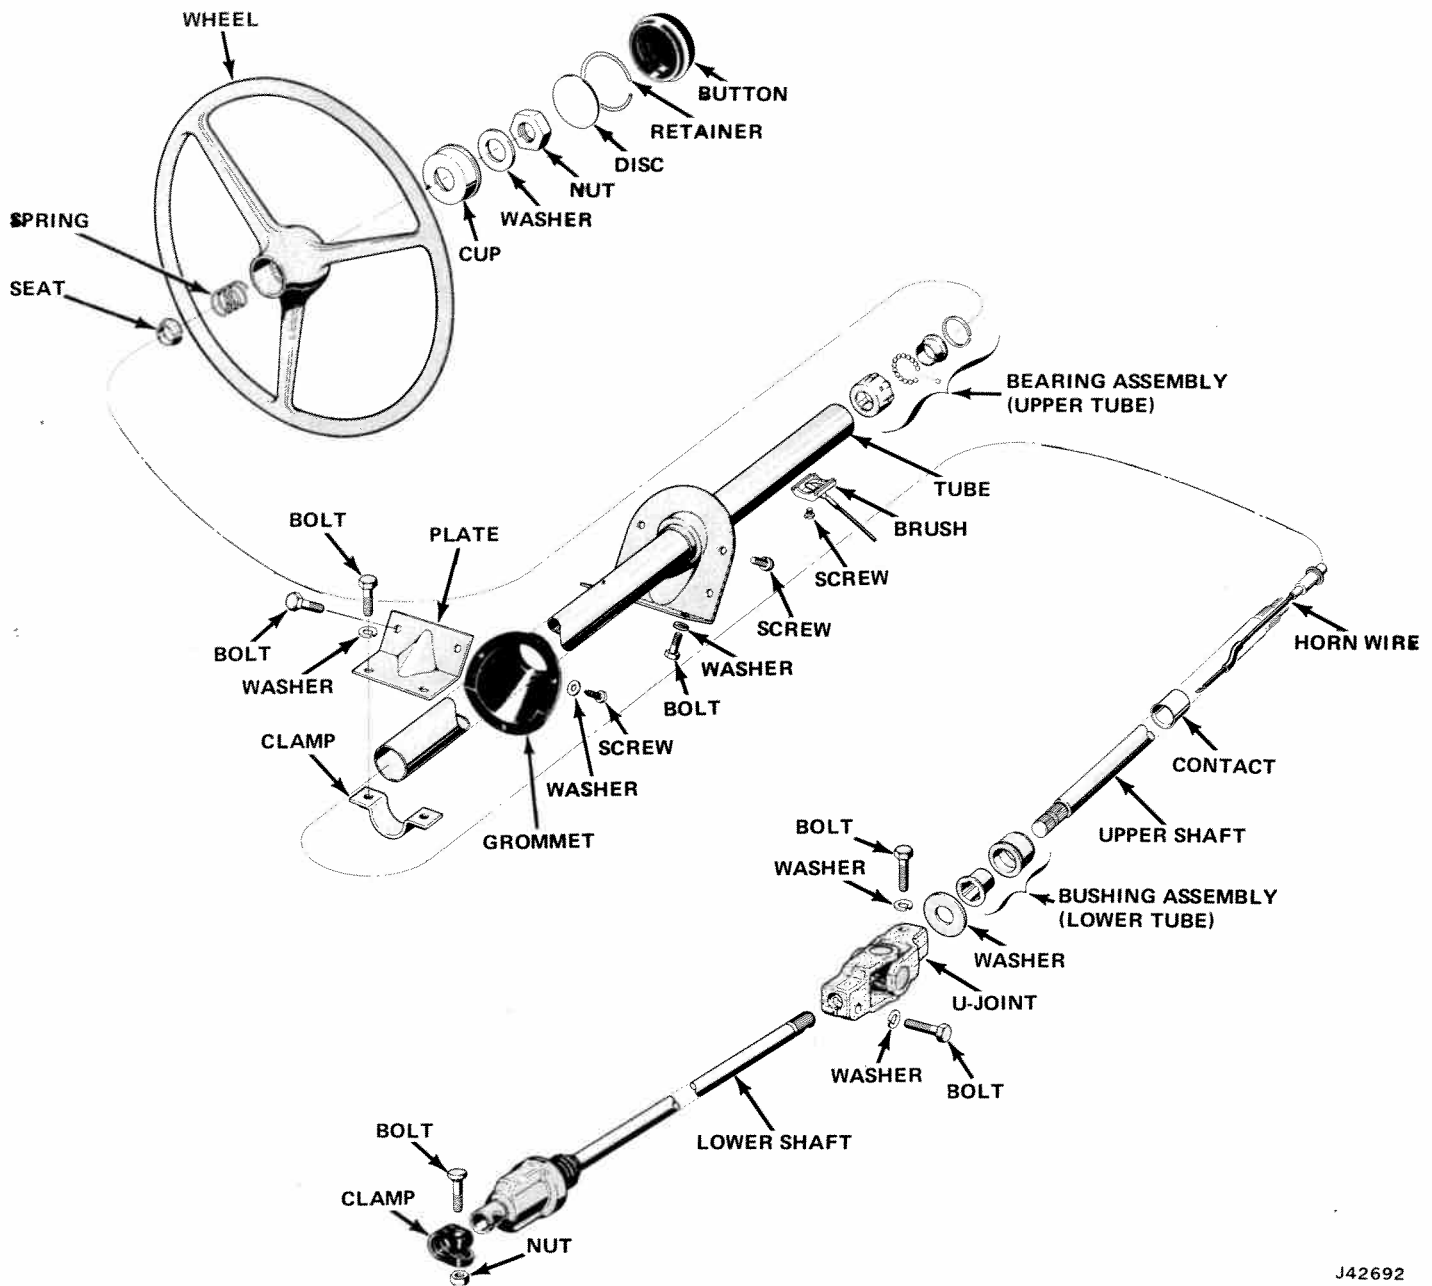

Fig. 11-4 Steering Column—CJ Models
- (1) Remove steering wheel.
- (2) Remove upper steering shaft from steering column and horn wire and contact ring from shaft (fig. 11-4).
- (3) Remove horn contact brush from column.
- (4) Remove bearing assembly and bushing assembly from steering column ends.
- (5) Inspect all parts for damage and wear. Replace worn or damaged parts.